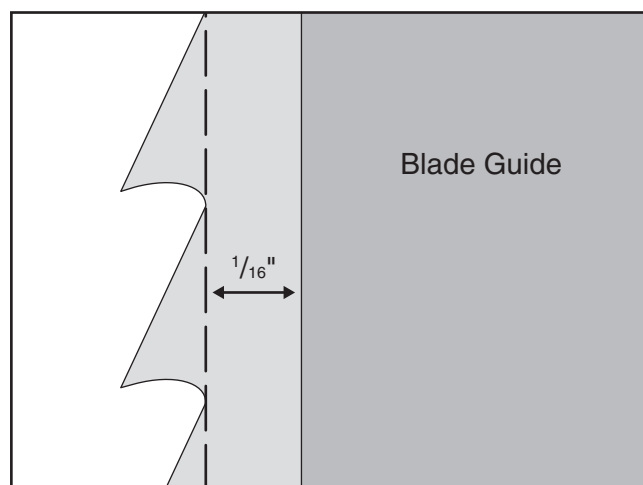

Figure 22. Blade guides positioned approximately $\frac{1}{16}$ " behind tooth gullets.
4. Position the blade guides so that they are approximately $\frac{1}{16}$ " behind the tooth gullets (see **Figure 22**), then re-tighten the blade guide bracket cap screw.